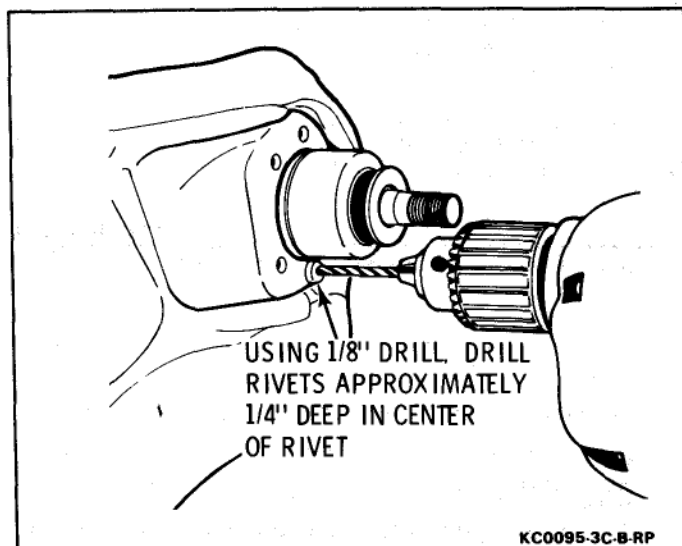

Figure 7 – Drilling Upper Control Arm Ball Stud Assembly Rivet
- Floor jack must remain under the shock absorber assembly mounting location on lower control arm assembly (17) during removal and installation to hold the spring assembly and lower control arm assembly in position.
5. Loosen ball stud assembly (2) from steering knuckle assembly (6).
6. Cotter pin (3) and nut (4).
7. Support steering knuckle assembly (6) with floor stands.
8. Separate ball stud assembly (2) from upper control arm assembly (1), using J 39549.
9. With upper control arm assembly (1) in raised position, drill out four rivets approximately 6 mm (0.25 inch) deep, using 1/8-inch drill bit. Refer to Figure 7.